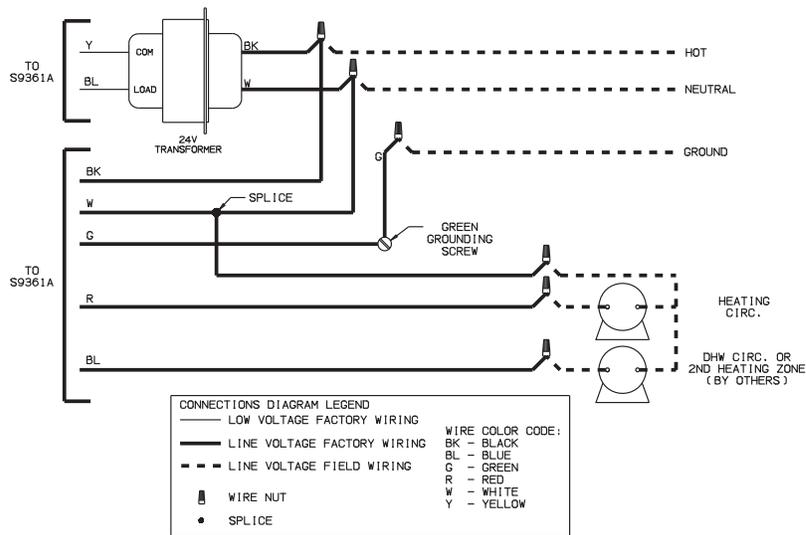

FIGURE 9.0: LINE VOLTAGE CONNECTIONS
1) Line Voltage (120 VAC) Field Connections – See Figure 9.0 for line voltage connections. Provide a dedicated circuit for the boiler of 15A or greater. A service switch is recommended and is required by many local codes. Locate this switch in accordance with local codes or, in the absence of any, in a location where it can be safely accessed in an emergency involving the boiler. All 120VAC connections to the boiler itself are made inside the junction box on the right side of the boiler. 120VAC connections are: